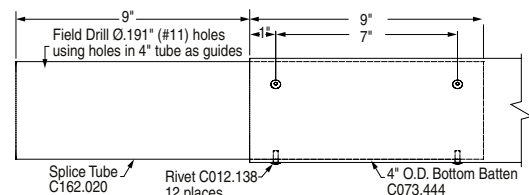
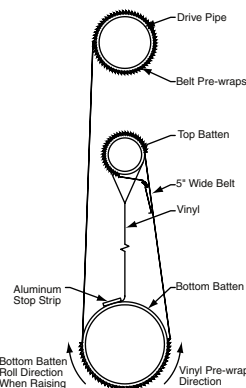

Figure 5
Figure 6
- ③ Assemble 4" bottom batten as shown on shop drawings using 3 3/4" OD x 18" splice tubes. (See Fig. 5).
- ④ Using a chalk line, mark along the length of the assembled 4" batten tube to be used as a guide when attaching the curtain.
- ⑤ Attach the square raw bottom edge of curtain fabric to the 4" bottom tube using adhesive strip. Make sure the curtain is flat, square and rolled straight.
- ⑥ Curtain fabric is 6"± wider than 4" bottom tube. Attach fabric so equal amounts of fabric overhang each end. Do not allow fabric to extend onto the heat seamed edging of curtain fabric. Cut 4" bottom tube if necessary.
- ⑦ Refer to shop drawing and mark finished height of curtain. The typical curtain height received is 20" longer than shown on shop drawing, allowing 1 1/2± revolutions around pipe.
- ⑧ Roll curtain on tube to desired position. Attach stop strip in predrilled holes with self-tapping screws supplied. Installer should use a file to round the corners of the stop strip to lessen the possibility of curtain tears (see Fig. 6).